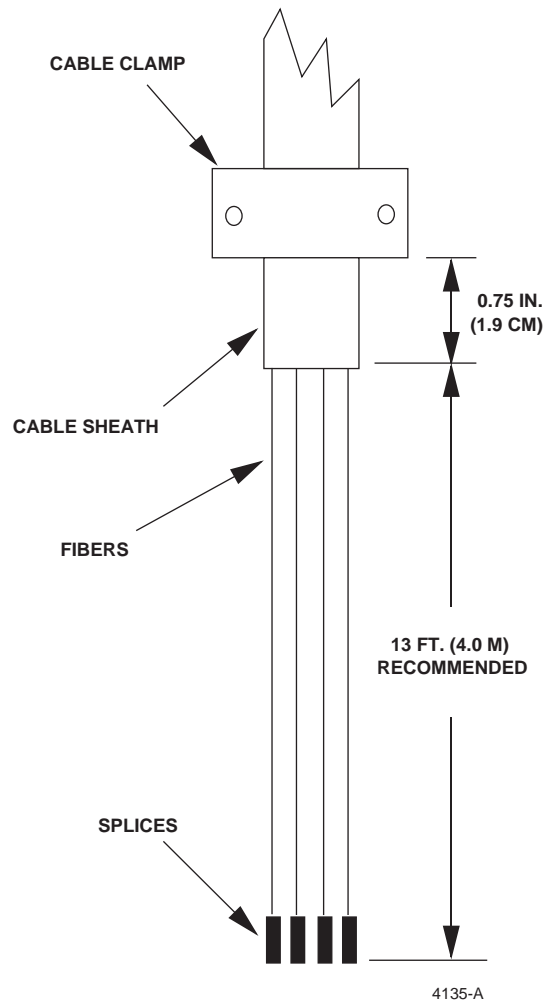

Figure 6. Sheath Opening for OSP/IFC Cables
5.06 Strip the outer sheath of the cable to expose the inner fiber bundles. Clean the cable core as necessary per local practice. The cable sheath must extend about 0.75 inches (1.9 cm) beyond the cable clamp. The service loop length shown in **Figure 6** includes approximately 30 inches (76.2 cm) of fiber within the splice tray for splicing. If buffer tubes or fiber protector sleeves are needed add them at this time.